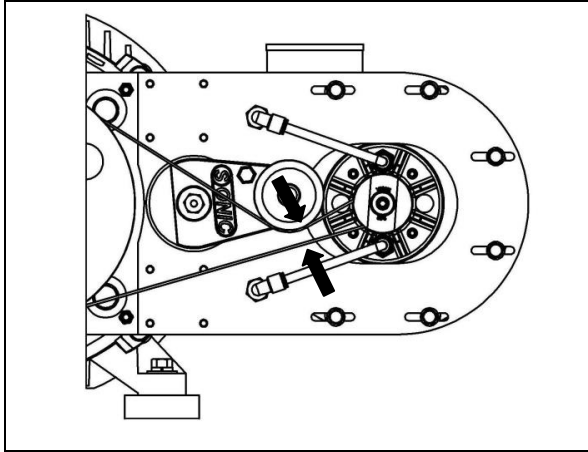

Figure 29 – Verify Belt Gap
8. Verify that the belt gap is approximately 3/4 inch $\pm$ 1/16 inch (Factory Set). (See Figure 29)